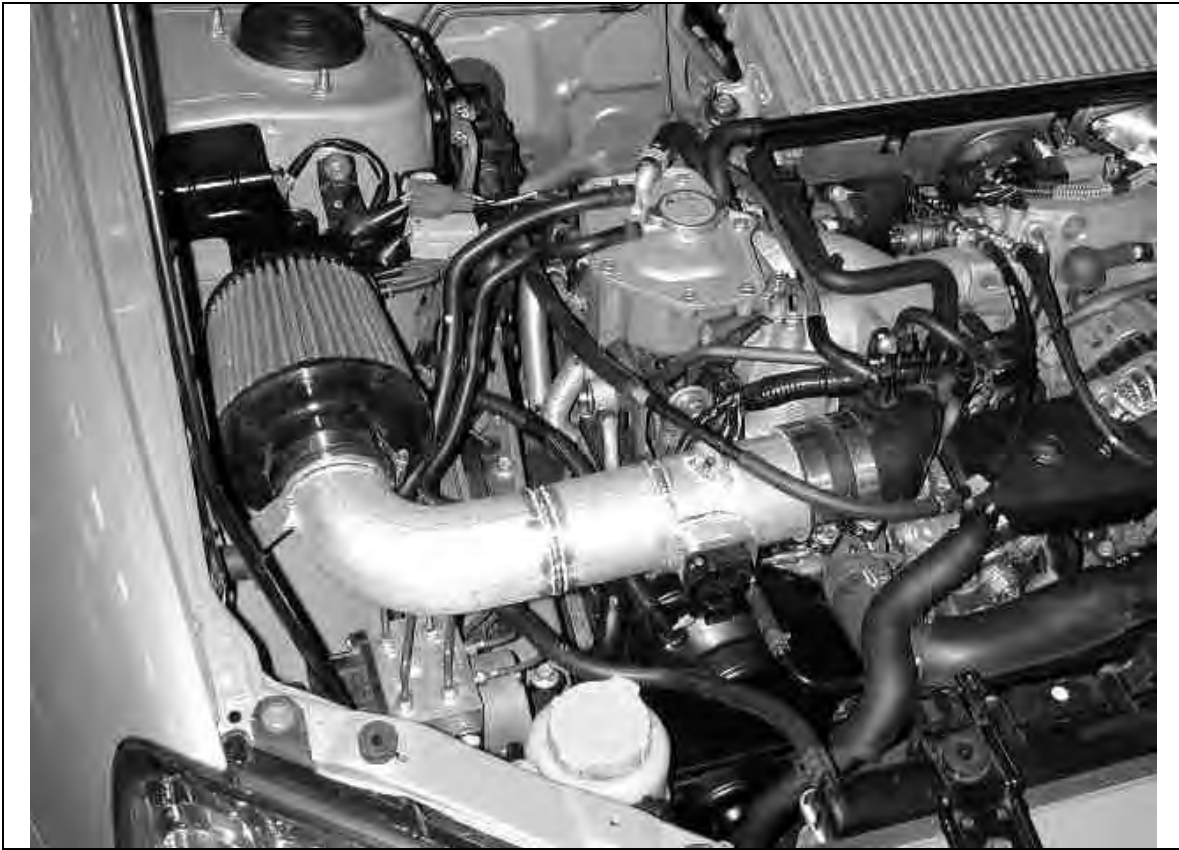

Fig. 16
- m. Your AEM® intake system's installation should look similar to Fig. 16.